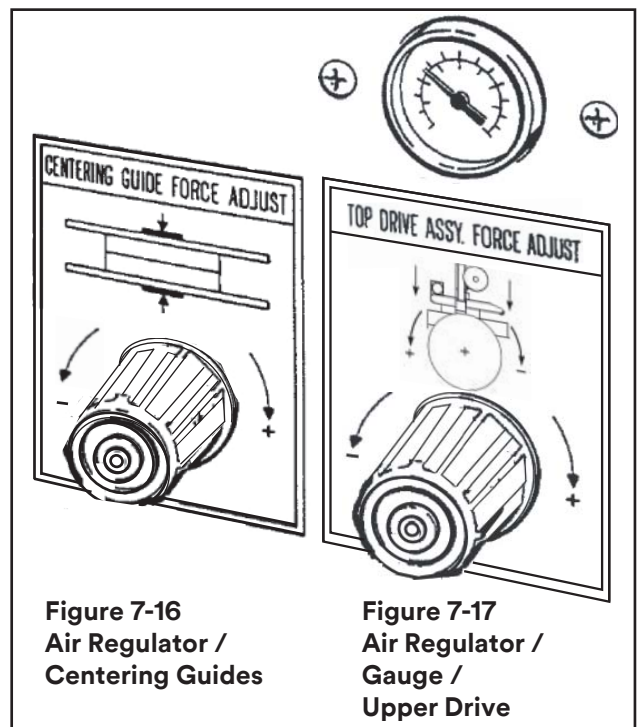

Figure 7-16
6. Air Pressure Regulator, Centering Guide Force Adjustment – Figure 7-16